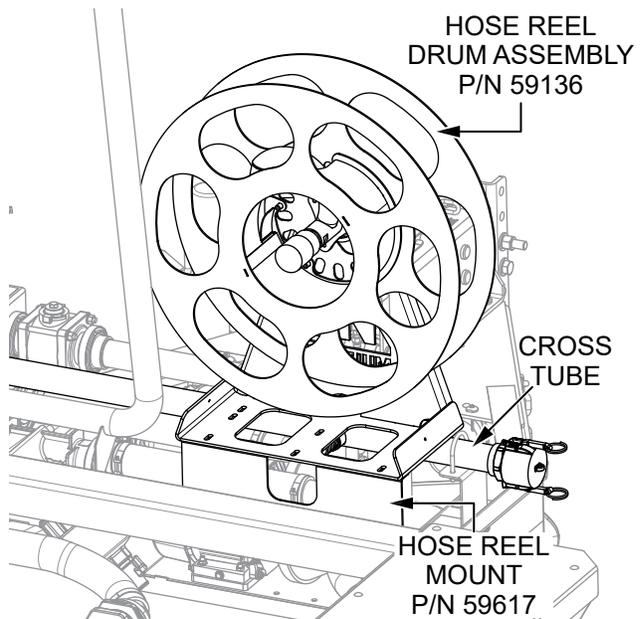

**Figure 4. Install Hose Reel Mount**
3. Using the **three 3/8-16 x 1 hex head flange screws** (P/N 22228), secure the **hose reel mount** (P/N 59617) to the **front crossmember** as shown in Figure 4.